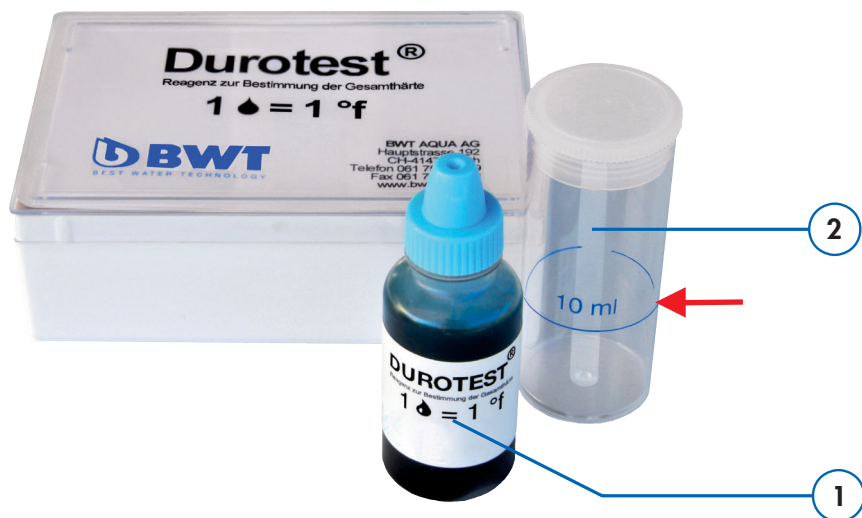

Fig. 35: Check of the water hardness with the "DUROTEST®"
The **DUROTEST® kit** is a reagent usable for a simple analysis of the total hardness of the softened water. The Kit includes the **analysis liquid (1)** and a **test pipe (2)** (see Fig. 35).